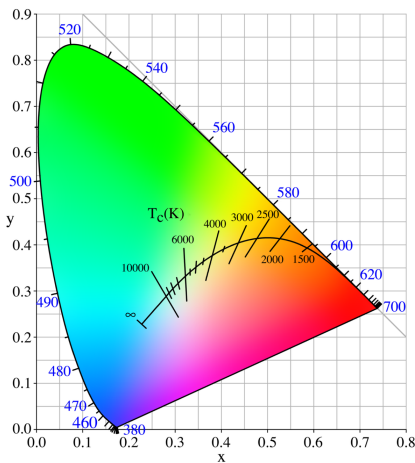

Figure 8.5: CIE chromacity diagram⁴
- “horseshoe” capturing light of different wavelengths depending on red and green, we see it in Figure 8.5,